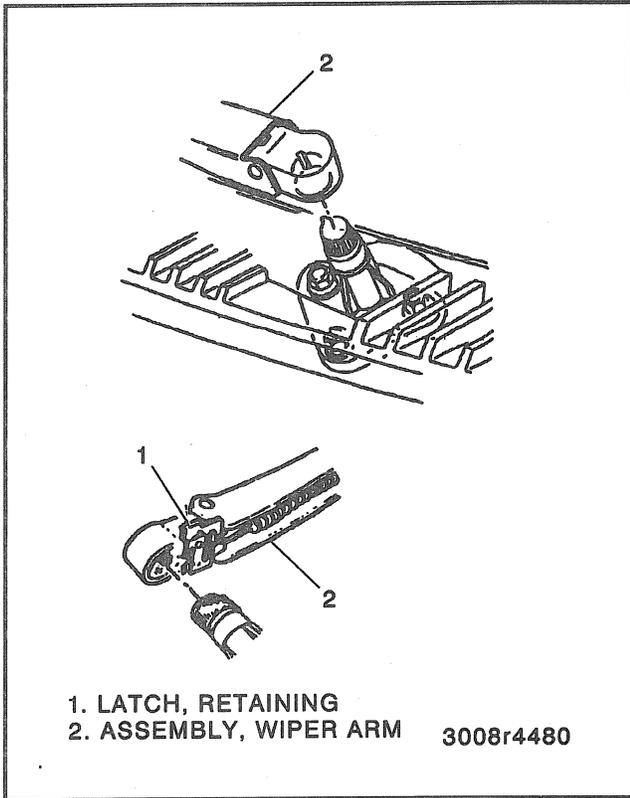

Figure 17—Wiper Arm Attachment
**Remove or Disconnect (Figure 17)**
**Install or Connect (Figure 17)**
#### Remove or Disconnect (Figures 17 and 20)
- Lift the wiper arm into the servicing position, and move the latch into the open position before removing the wiper arm (figure 17).
#### Install or Connect (Figures 17 and 20)
- Place the wiper arms on the transmission drive shafts and lock them into place with the latch (figure 17).